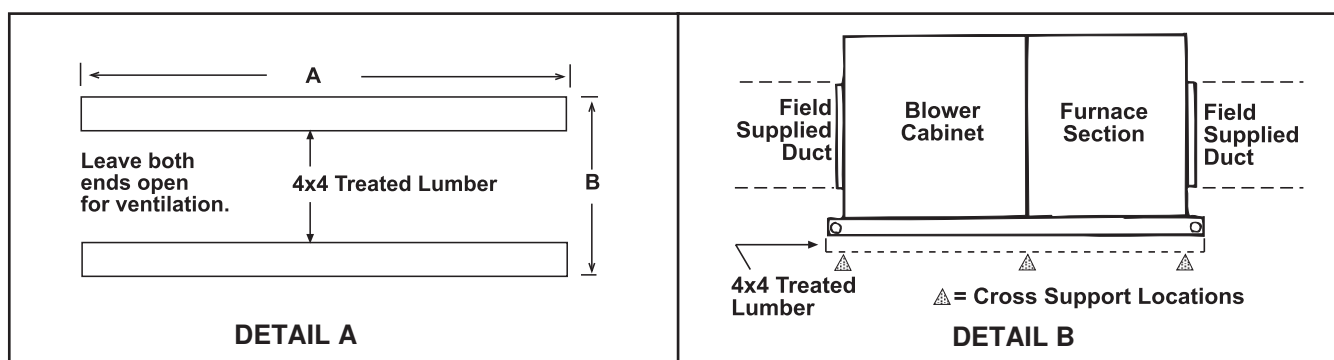

Figure 3. Field-Supplied Support Assembly (Refer to Table 6)
1. Cut treated 4 × 4 wooden rails for length in accordance with dimension A (see Figure 3, DETAIL A).
2. Space rails in accordance with dimension B (see Figure 3, DETAIL A) so that curb cap skirt fits over edge of boards with rails sitting inside horizontal length of curb cap. If rails are being laid directly on roof, position them as shown in Figure 3, DETAIL A).
3. If rails are not being placed directly on roof surface, install cross-supports underneath rails at ends of unit and at all cabinet joints: between blower cabinet and furnace section and between furnace and optional downturn plenum (see Figure 3, DETAIL B).
NOTE: The field-supplied, weather-resistant cross-support structure must be adequate for the weight of the system. Cross-supports should run the entire width of the system to support the rails at the recommended locations (see Figure 3, DETAIL A).
Dimension (See Figure 3)	Unit Size